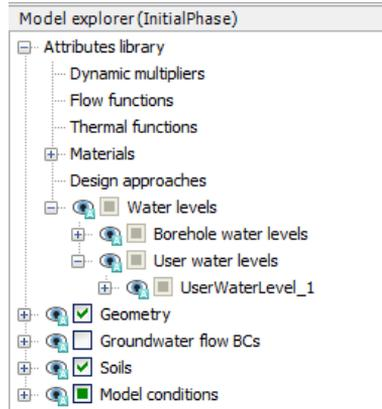

Figure 8.5 Water levels in *Model explorer*
- Expand the *User water levels* subtree. The created water level can be seen named as 'UserWaterLevel_1'. The location of the water levels in *Model explorer* is shown in Figure 8.5.